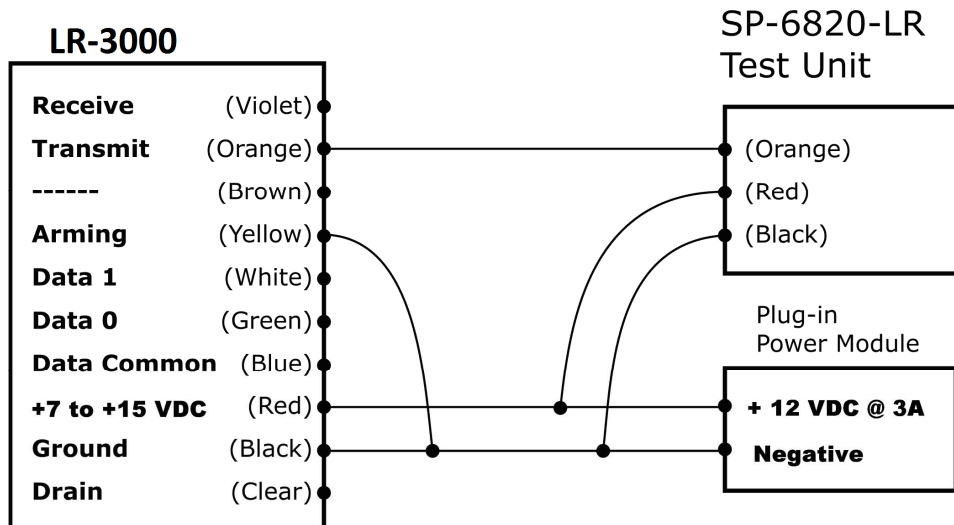

Figure 2. Wiring for quick test.
- Wiring diagram, Figure 2 (below)
- Connect the wires as shown in the wiring diagram, Figure 2 (below).
This step should be taken before the credentials are installed in or on the vehicles. From the LR-3000KIT Test & Set-up Kit, use the test unit, and one of the hand-held test tags, and the wiring diagram in Figure 2 on page 6. The reader does not have to be interfaced with the host system (but they *may* be connected together). Use the DC power module from the LR-3000KIT Test & Set-up Kit *only* if the independent DC power supply is not yet connected.